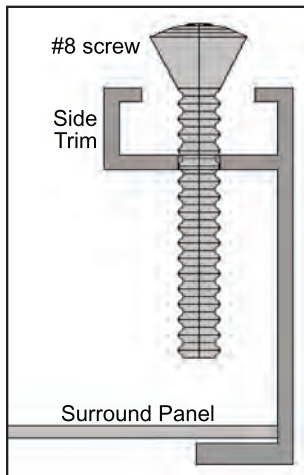

Figure 58: Screw to hold the trim against the surround.
3. Slide the two (2) attached trim pieces onto the surround panel.
6. On the side trims, there are holes 2" (50 mm) from either end. Use a Phillips screwdriver to place a #8 screw 1 1/4" long in each hole and tighten (refer to Figure 58). This will keep the trim tight against the surround.